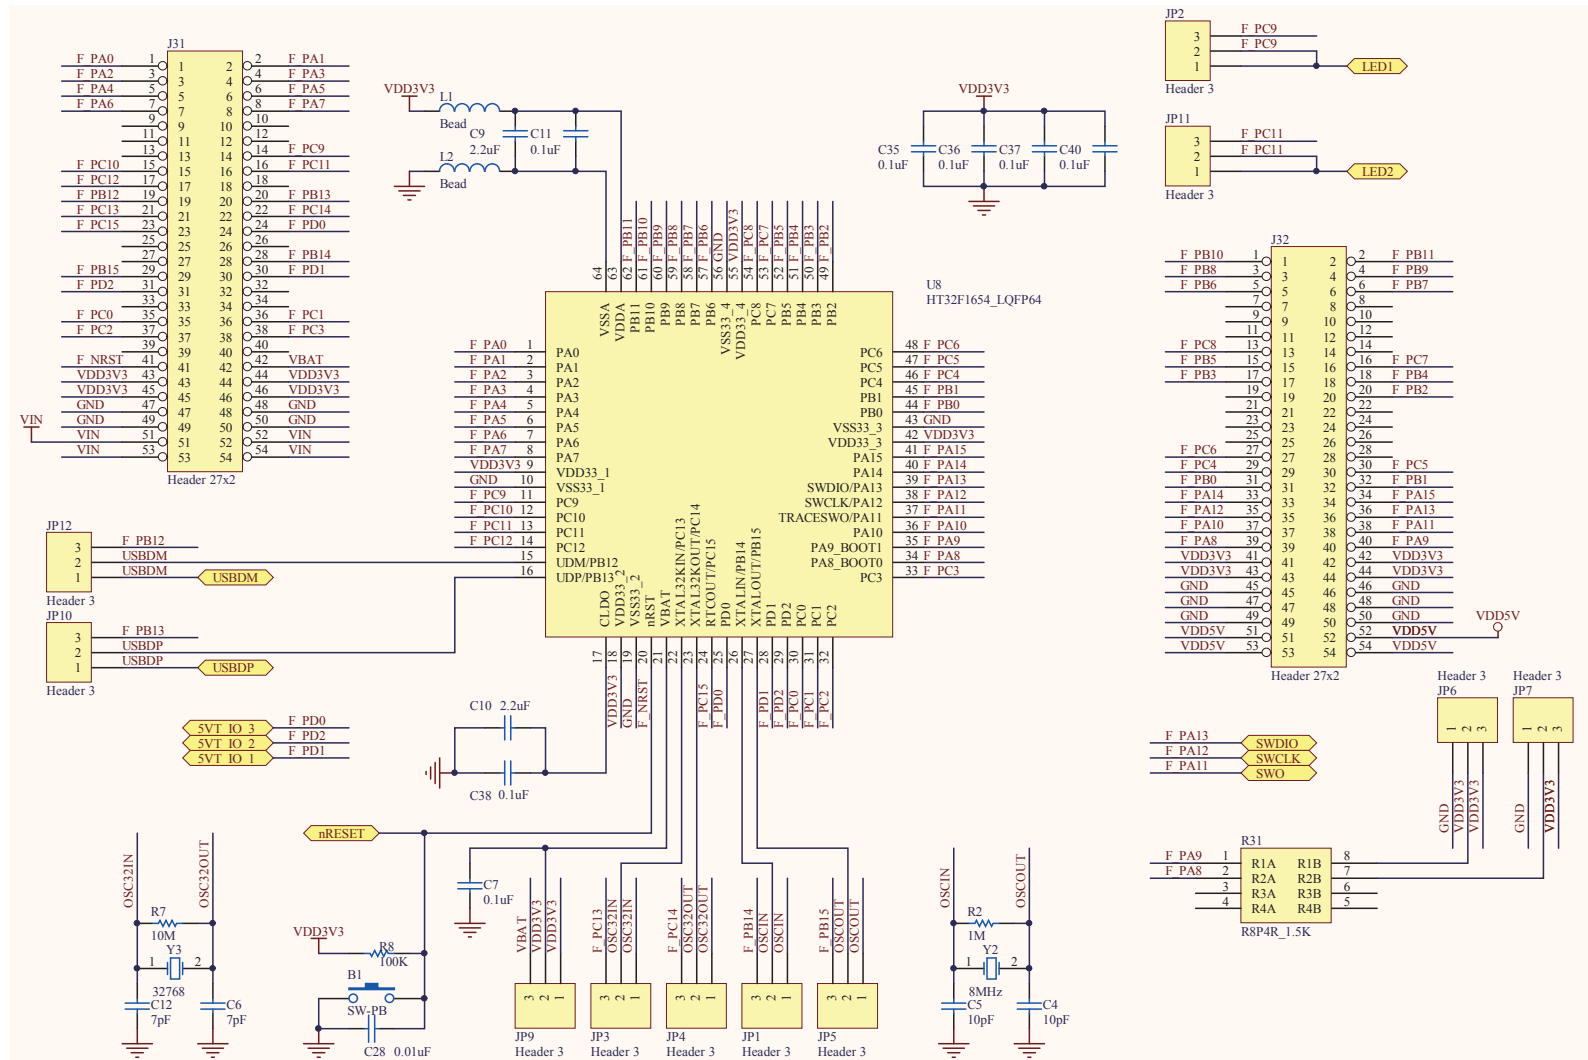

Figure 9. MCU, Boot Pins and Extension Connector
- Figure 9 Includes the MCU, Boot Pins and Extension Connector.